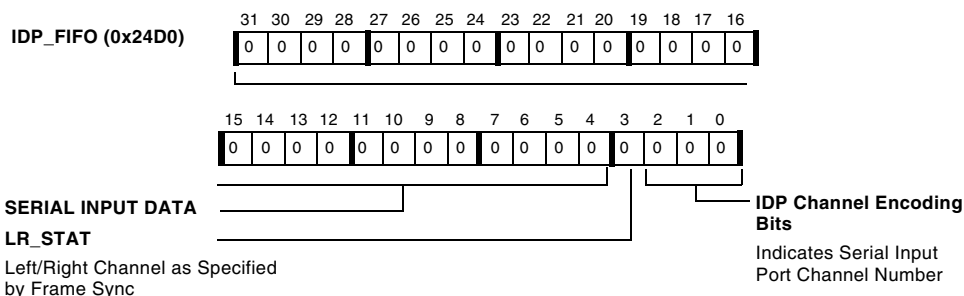

Figure A-63. IDP\_FIFO Register
- IDP\_FIFO, described on Figure A-63